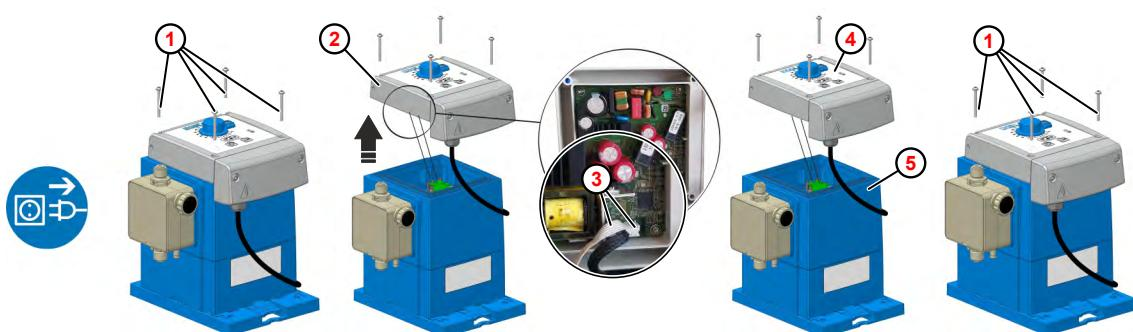

Fig. 18: Replace the control unit
- ① Fixing screw
- ② Control unit
- ③ Plug
- ④ Control unit (new)
- ⑤ Pump housing
2. Loosen the screws (Fig. 18 , ①) on the control unit ② .